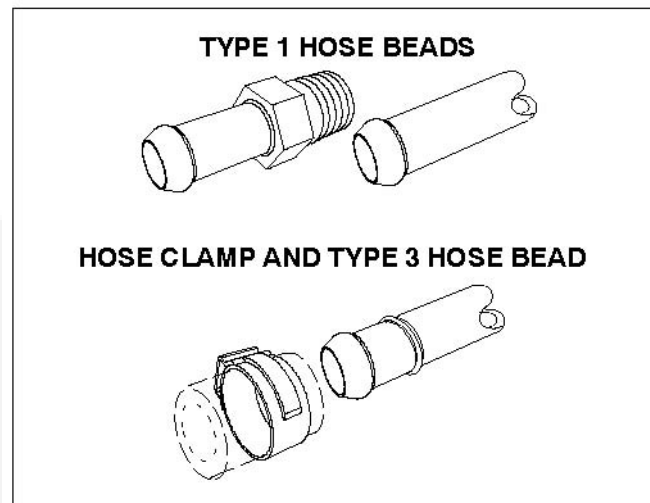

FIGURE 15. DOUBLE-FLARE SAE J1231 HOSE BEADS AND STEPLESS EAR CLAMP
(Figure 15) illustrates suitable tooling to form tubing ends.
- **Hose Beads:** Use suitable tooling to form tubing ends into SAE J1231 Type 1 or Type 3 double-flare hose beads (Figure 15). This is **recommended** for all tubing and fittings.
- **Hose Beads:** Use suitable tooling to form tubing ends into SAE J1231 Type 1 or Type 3 double-flare hose beads (Figure 15). This is **required** for all tubing and fittings.
- **Hose Clamps:** Use stainless steel ear clamps (Figure 15). Onan part number 0503-1951-11, Oetiker part number 16700011 or equivalent worm screw type clamps are no longer allowed.